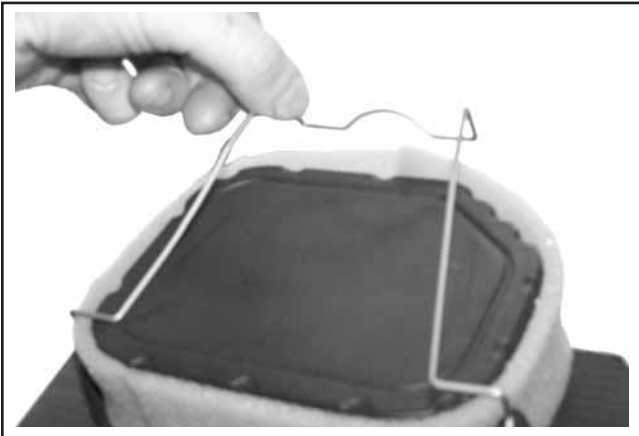

Figure 8-16. Removing Air Cleaner Element.
2. Unhook the retainer and remove the air cleaner element and precleaner (if equipped) from the air cleaner base for servicing. See Figure 8-16.